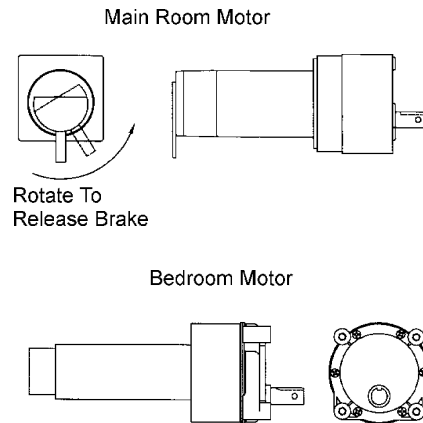

Fig. 3-8
2. From the rear of the motor, rotate the brake release lever on the back side of the motor counter-clockwise 1/8 turn. (Fig. 3-8) This will release the brake that locks the slideout in place.